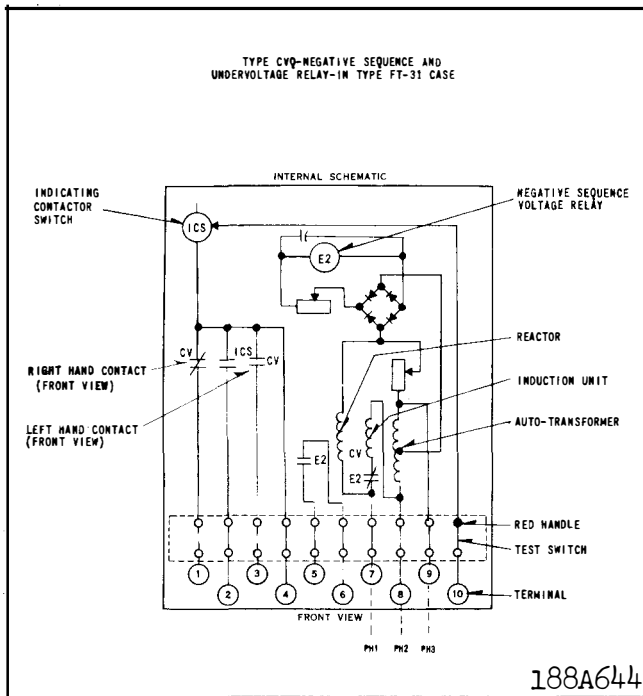

Fig. 1 Internal Schematic of the Type CVQ Relay.
The type CVQ relay consists of a polar unit (E) operating on negative sequence quantities, a negative sequence voltage filter, full wave bridge, a time undervoltage relay (CV) and an indicating contactor switch (ICS). The principal component parts of the relay and their location are shown in Figure 1.
The voltage filter consists of an autotransformer, reactor, and resistors connected as shown in the internal schematic Fig. 1.